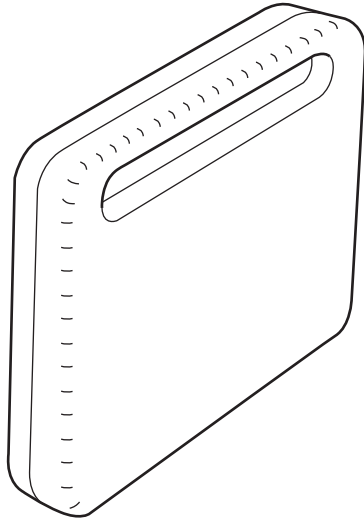

**Fig. 2**
- 2 Fig. 2 shows a table which will be made in a school workshop. The table will be made from three pieces of 5 mm thick corrugated cardboard which slot together.